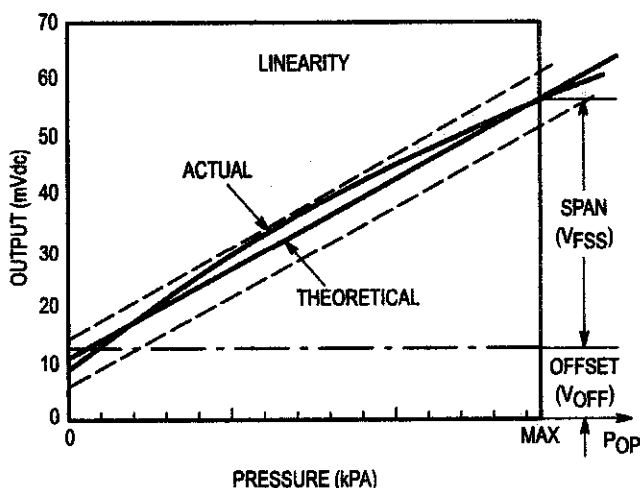

Figure 3. Linearity Specification Comparison
Linearity refers to how well a transducer's output follows the equation: $V_{out} = V_{off} + \text{sensitivity} \times P$ over the operating pressure range (see Figure 3). There are two basic methods for calculating nonlinearity: (1) end point straight line fit or (2) a least squares best line fit. While a least squares fit gives the "best case" linearity error (lower numerical value), the calculations required are burdensome.